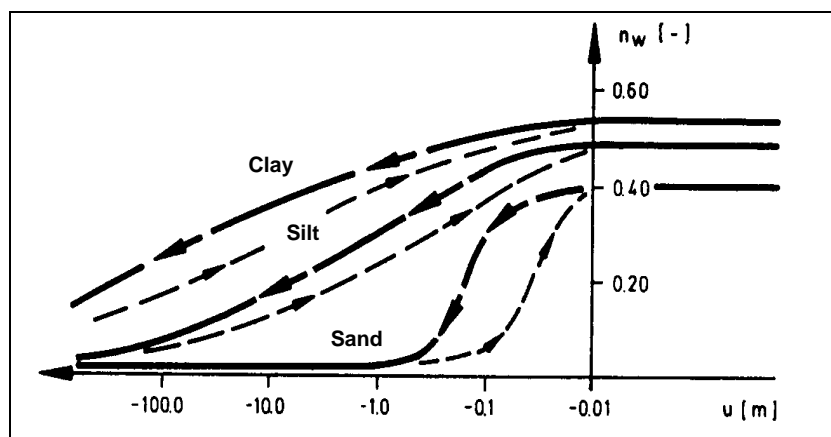

Figure 1 Function $n_w = f(u)$
- Using the "**Time BC/Soil properties**" menu item, you can query the soil properties which you defined in **GGU-SS-FLOW3D**. This list is supplemented by information on the specific storage coefficient. According to soil type, you can define your specific soil curves, using model points by clicking on the "**nw = f(u)**" field (*cf.* Figure 1 further below). The soil permeability can be altered as a function of the time using the "**k = f(t) [0]**" button.
The value for n_w can also be entered here. The value of n_w gives the volume of water relative to the total volume. It is a dimensionless variable and is a function of the porewater pressure u . Typical function curves for various soil types are shown in Figure 1: